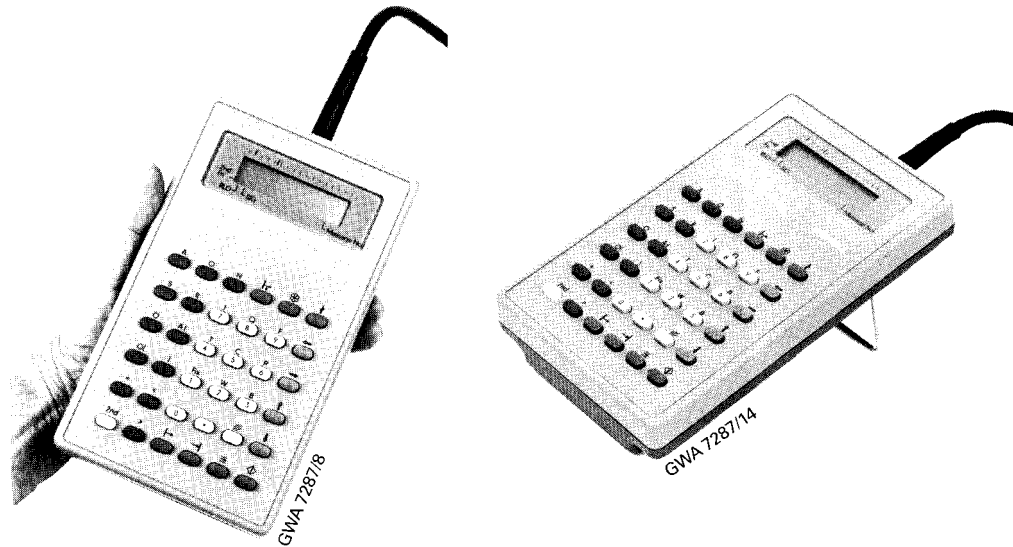

Figure 3-2. The PG 605U as a Handheld and Desktop Unit
- Handheld use ( → Figure 3-2.)
- Desktop use ( → Figure 3-2. )